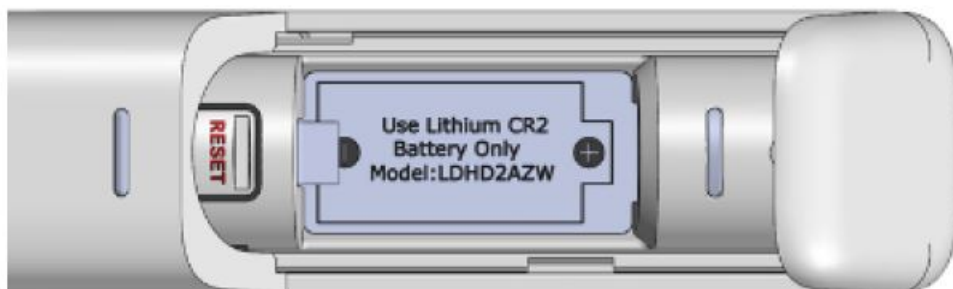

Figure 6
2. Once you have received the CR2 battery, slide the battery cover to expose the battery as shown in Figure 6, remove the old battery, wait 10 seconds and install the new one.